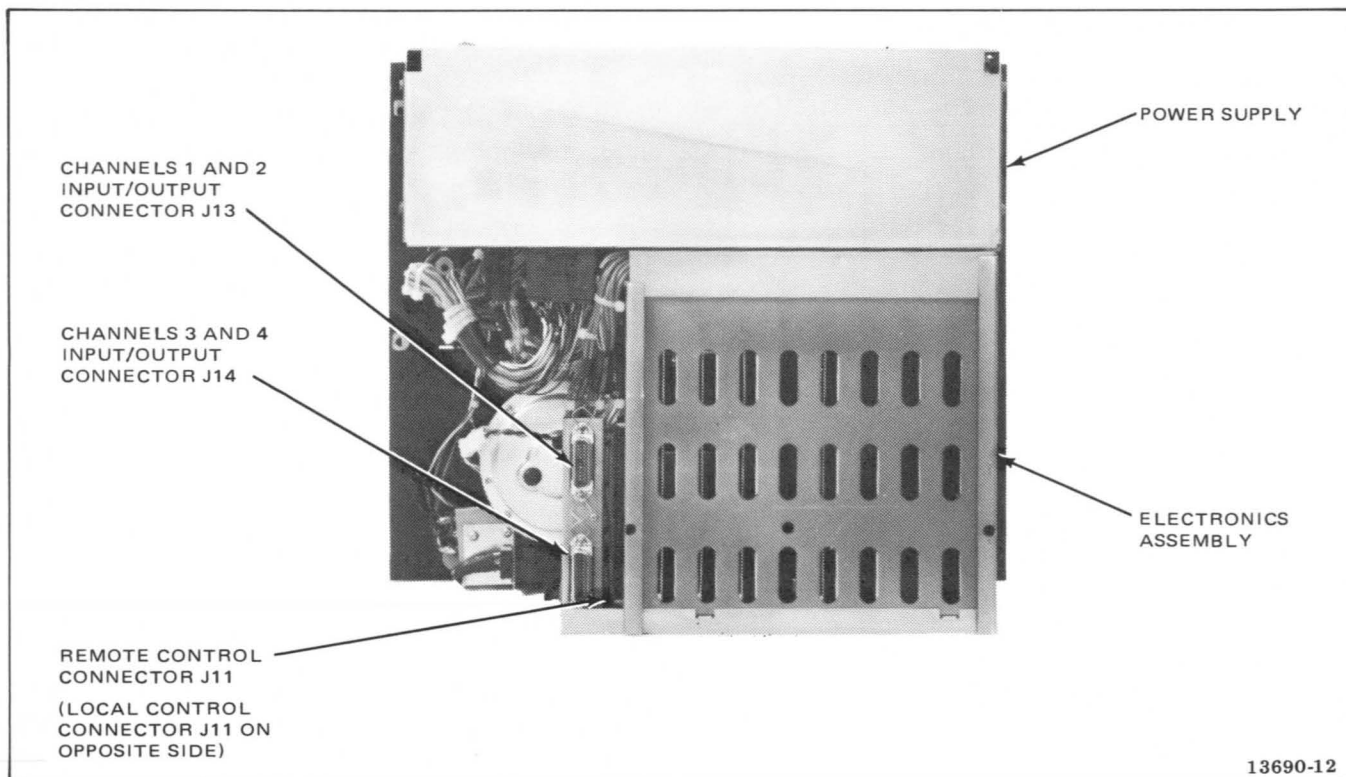

Figure 2-13. Connector Locations, Bottom View of Recorder/Reproducer
located at the bottom of the electronics assembly (Figure 2-13). All signal input and output connections for channels 1 and 2 are made to J13, and connections for channels 3 and 4 are made to J14. Use 24-pin Amphenol connectors (Ampex Part No. 139-840) furnished with the recorder/reproducer. Tables 2-2 and 2-3 provide a description of all the connector pin signals. All audio signal input and output connections are wired for unbalanced line. (For balanced input, see wiring instructions in paragraph 2-17.)
2. At the bottom side of the recorder/reproducer, locate double-sided connector J11 shown in Figure 2-13. (The local control unit connects to the other side of J11).